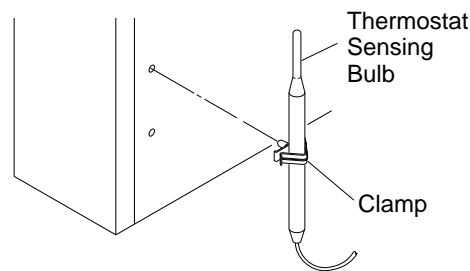

Figure 5 - Attaching Thermostat Sensing Bulb
2. Place clamp on thermostat sensing bulb as shown in Figure 5. Clamp is provided in hardware package.
3. Snap clamp into upper mounting hole as shown in Figure 5. Mounting hole is located on lower left edge of heater. Make sure the thermostat sensing bulb is pointing up.